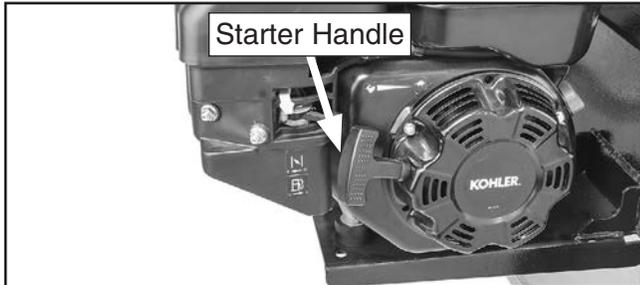

Figure 28. Starter handle location.
- Pull starter handle (see **Figure 28**) slowly until resistance is felt. Retract handle, then pull handle quickly with smooth, steady motion until engine starts.